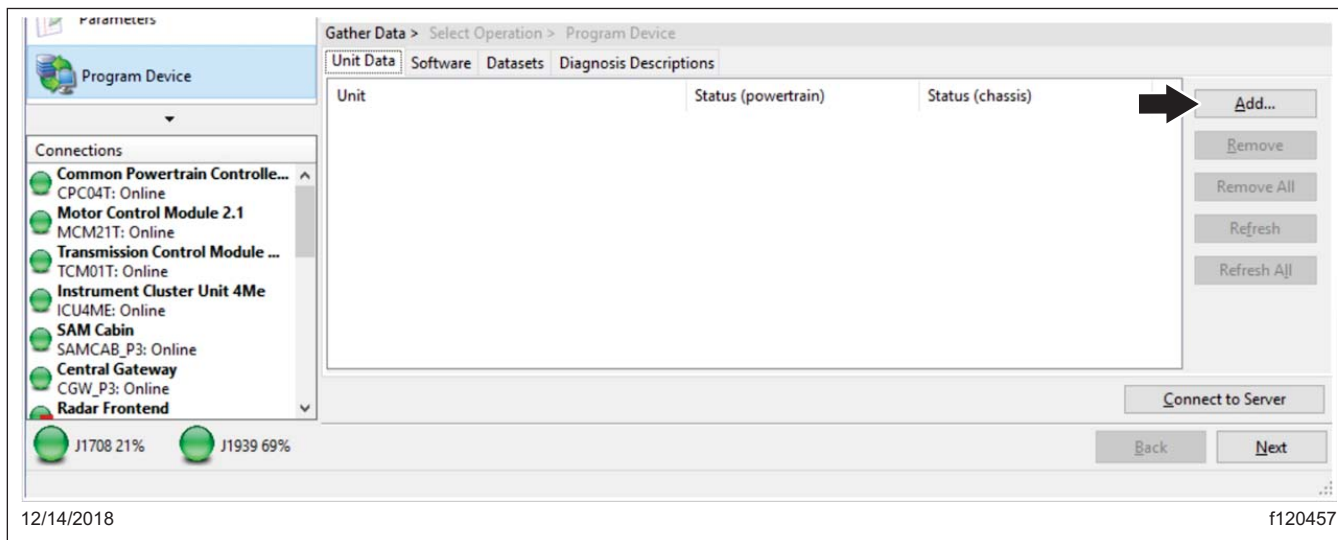

Fig. 4, Adding the VIN to Download Updated Server Data
6. Click "Add" to add a download request for the vehicle. See Fig. 4.